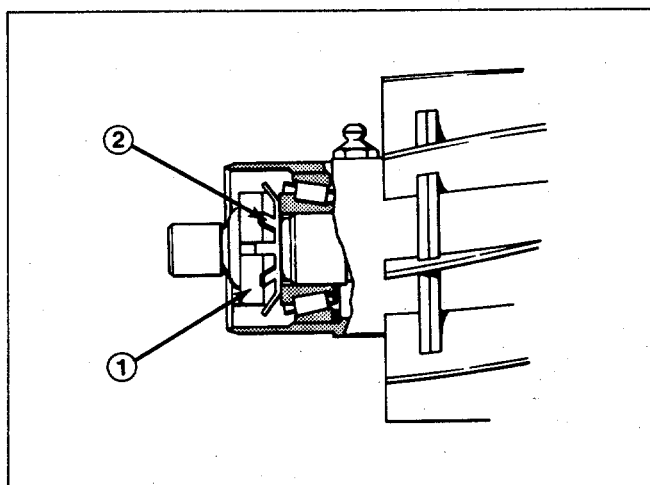

Figure 49
- 5. If bearings need adjustment, locate and remove lock tab from lockwasher inserted into slot on locknut (Fig. 49).
- 6. Adjust locknut in small increments and check for proper preload. Bend ears of lockwasher into slots on locknut when adjustment is completed to secure locknut (Fig. 49).